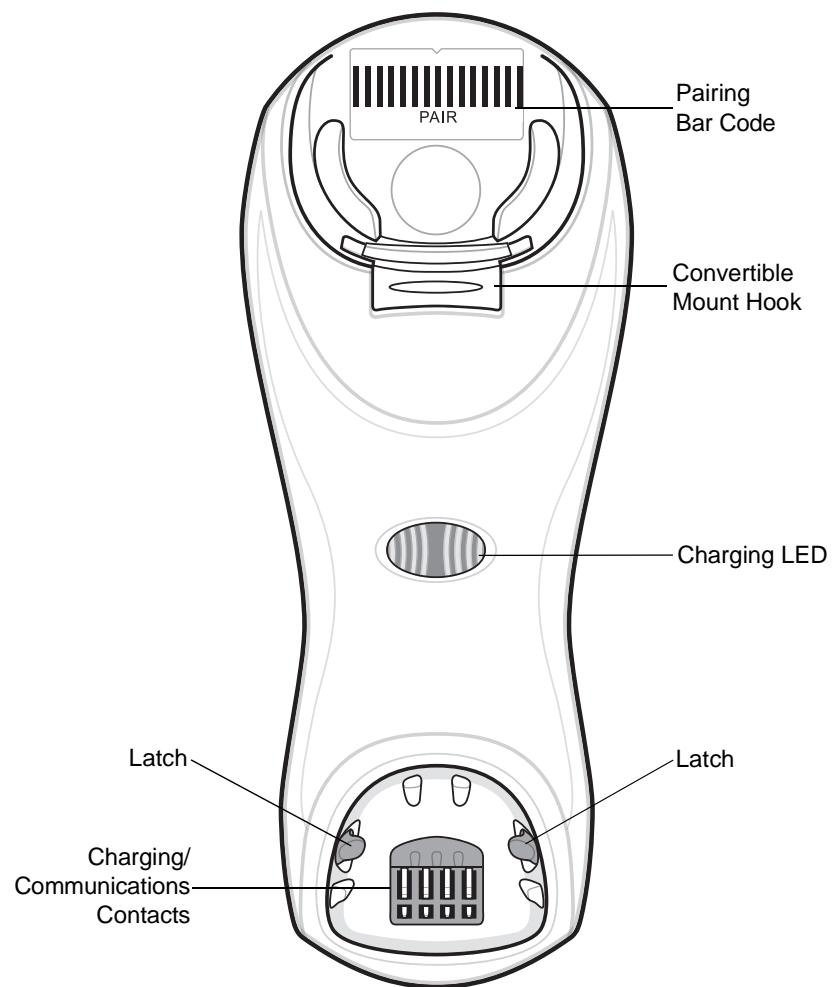

Figure 1-3 Cradle Front View
2. Ensure the convertible mount hook on the front of the cradle is inserted with the hook facing up. If not, remove and reverse the hook so that it is in position to secure the digital scanner in place. (See Figure 1-3 on page 1-4 for the location of the convertible mount hook.)